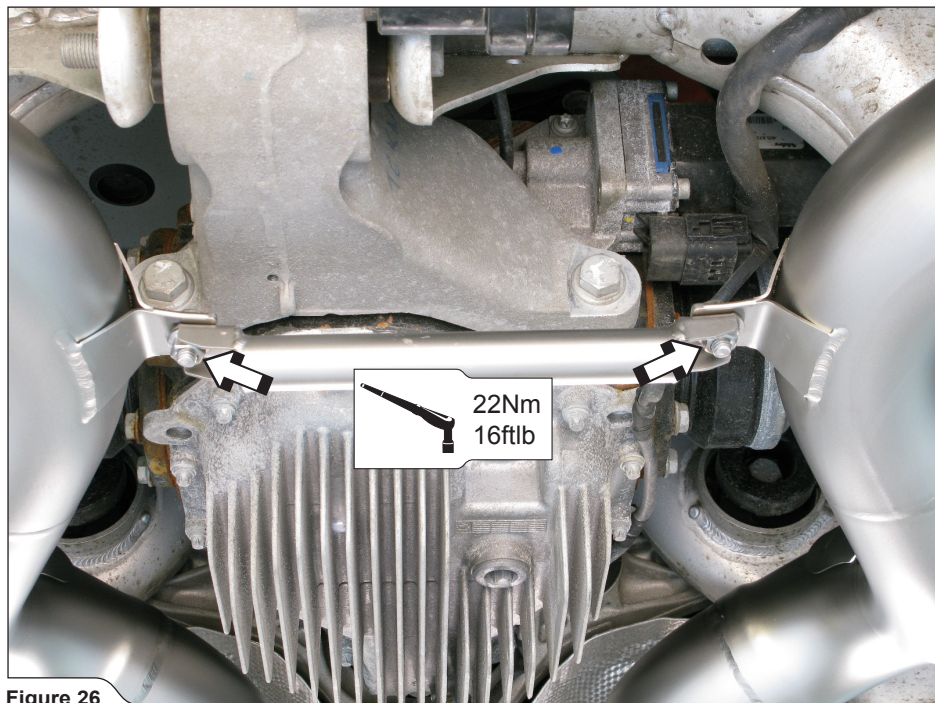

Figure 26
9. Center the mufflers in respect to the rear bumper's tail pipe outlets and chassis, than tighten the collector's linkage, using bolts and nuts from Akrapovič installation kit (**Figure 26**).